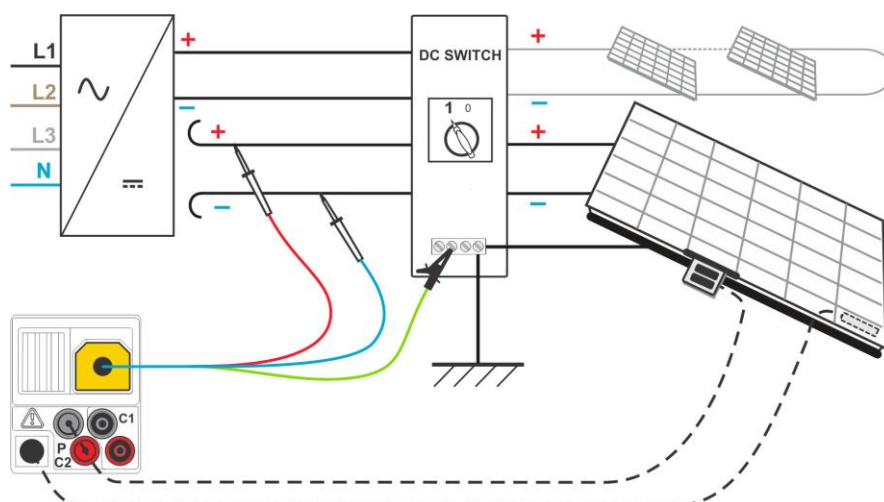

Figure 5.43: Connection for automatic measurement with universal PV test lead
- ❑ **Connect** universal PV test cable to the instrument (see **Figure 5.43**).
- ❑ **Connect** accessories to the PV system (see **Figure 5.43**).